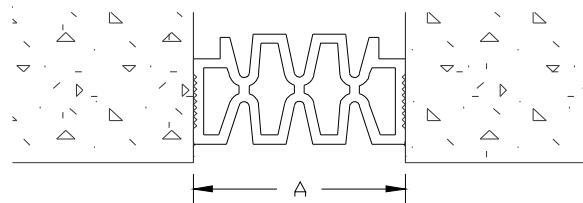

Figure 5
**STEP 4.** Compress the seal, and insert it into the joint, see Figure 5. Ensure that the seal is straight and at the proper depth in the joint.